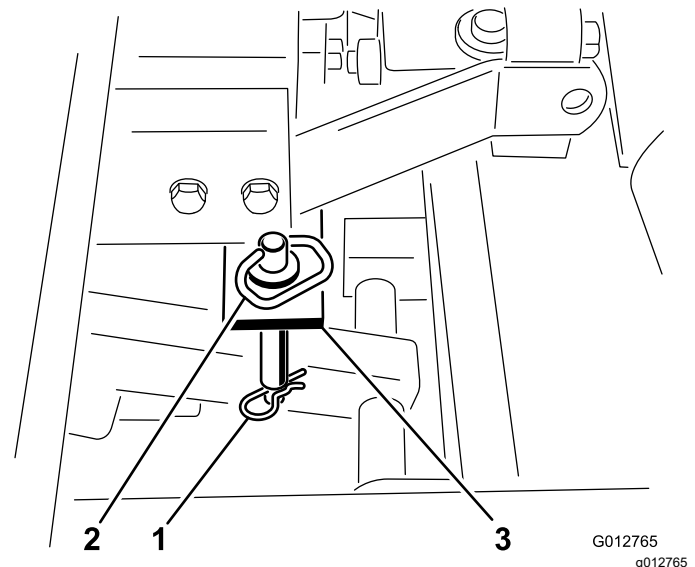

Figure 21
3. Remove the hairpin securing the lockup pin to the center cylinder rest (Figure 21).
lockup bracket and secure to cylinder rest with hairpin cotter (Figure 21).